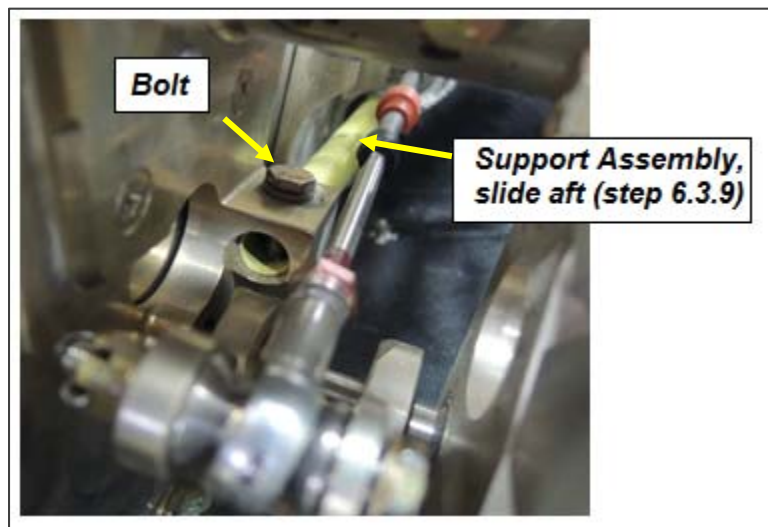

Figure 5. Support Assembly Removal
- 6.3.9 Remove the bolt securing the cable support assembly and slide aft (Figure 5).
- 6.4.18 Reinstall the support assembly (Figure 5).